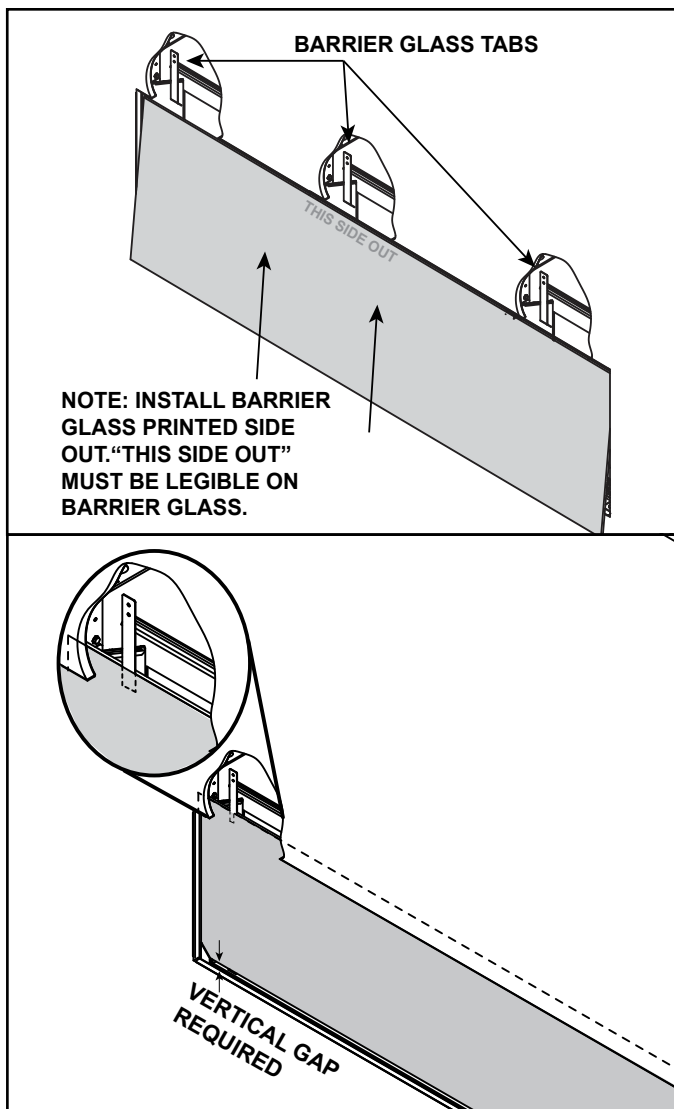

Figure 4.3 Replace Barrier Glass - Clean Face Finish
**NOTE:** Barrier glass must be installed between the finishing material and the barrier glass tabs. If not installed correctly, appliance will not operate as intended. See Figure 4.3.